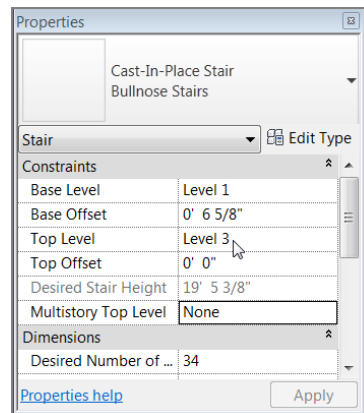

FIGURE 10.62: The Base Offset value is set to 6 5/8" (152mm).
2. Set Base Offset to 6 5/8" (152mm), as shown in Figure 10.62.